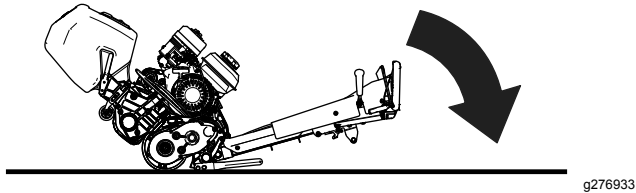

Figure 9
2. Access the cutting unit by lowering the traction-unit handle to the ground (Figure 9).